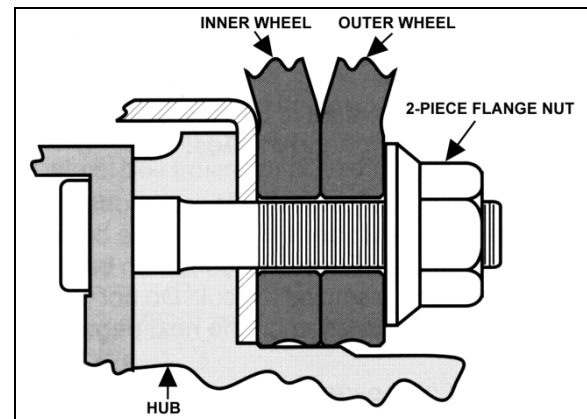

FIGURE 4: DRIVE AXLE WHEELS 13007
- Loosen a hex stud nut three turns (Figure 4);